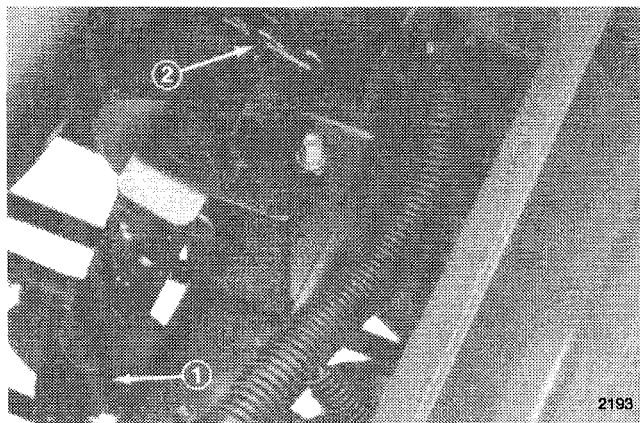

Figure 28
2. Measure distance from bottom of spacer on pulley mounting screw to bottom of slot in idler adjustment link. Distance should be 1/4 inch (6 mm) or less (Fig. 28).
3. Unhook tension spring from side of frame (Fig. 28).
4. To adjust, remove cotter pin and washer securing idler adjustment link to spring anchor (Fig. 28).
5. Slide link off mounting pin and select new hole until bottom of spacer is within 1/4 inch from bottom of slot (Fig. 28).
6. Reposition link onto spring anchor and secure with washer and cotter pin (Fig. 28).
2. Release tension in idler pulleys before removing or installing belts (Fig. 28).